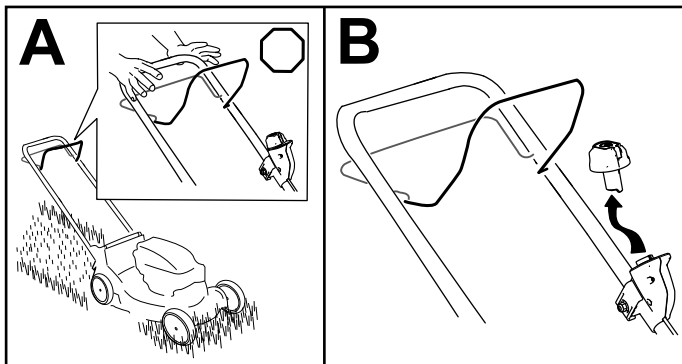

Figure 12
1. Release the blade-control bar (A of Figure 12).
2. Remove the electric-start button from the electric starter (B of Figure 12).